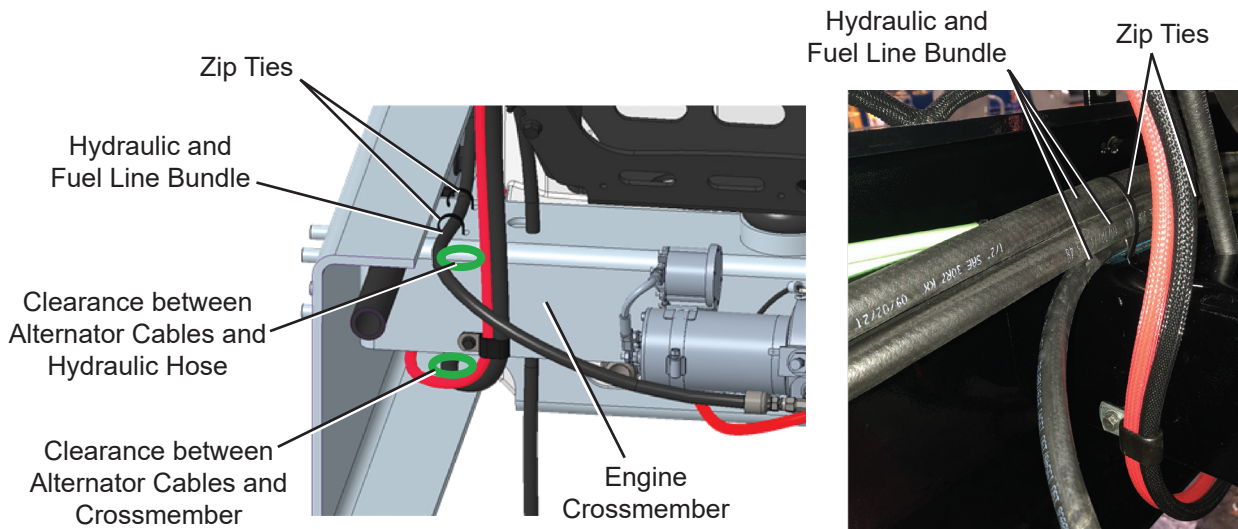
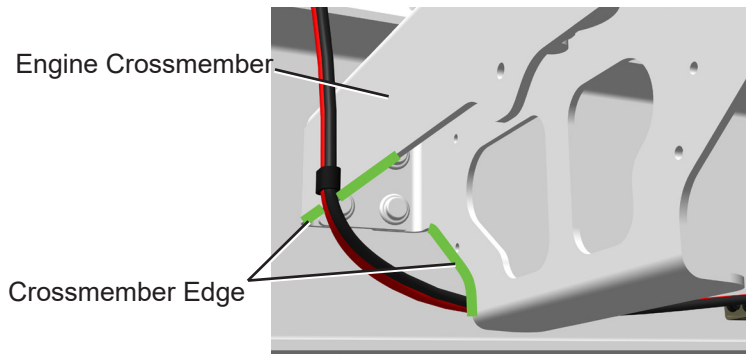

Figure 5
Figure 6
13. Make sure there is clearance between hood lift pump hydraulic line and engine alternator cables. See Figure 5. Adjust cushion clip and engine alternator cables as required to provide clearance.
14. Make sure there is clearance between bottom of engine crossmember and engine alternator cables. See Figure 5 and Figure 6. Adjust cushion clip and engine alternator cables as required to provide clearance.
15. Make sure hydraulic and fuel line bundle is securely zip tied to front engine crossmember. See Figure 5.